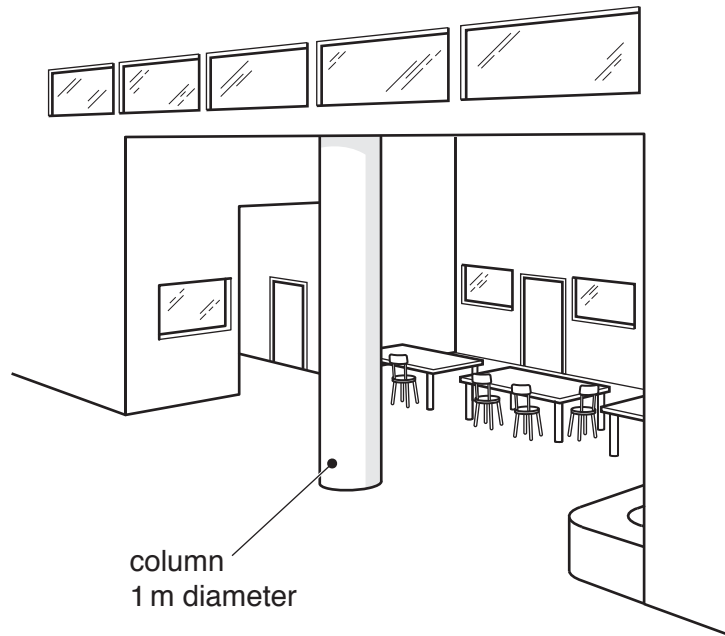

Fig. 7
- 10 Fig. 7 shows a study area in a secondary school where the roof is supported by a large cylindrical column.